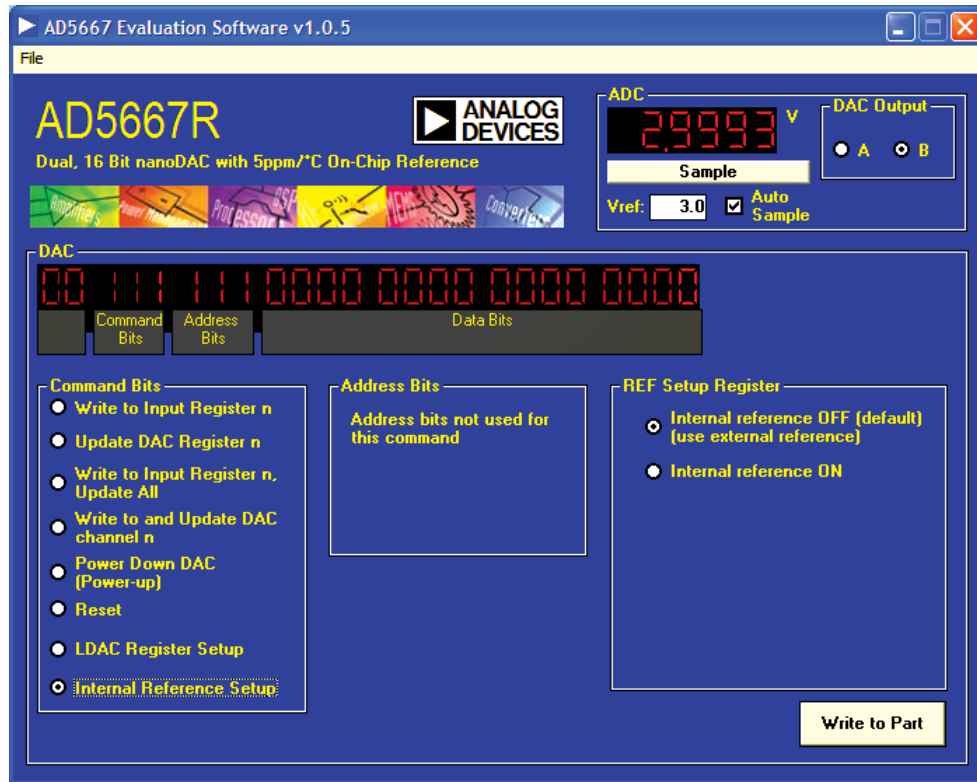

Figure 3. AD5667R Evaluation Software Main Window, Reference Setup
2. Click **Write to Part**. This allows you to program the bit in the reference setup register for the required mode of operation, as shown in Figure 3.